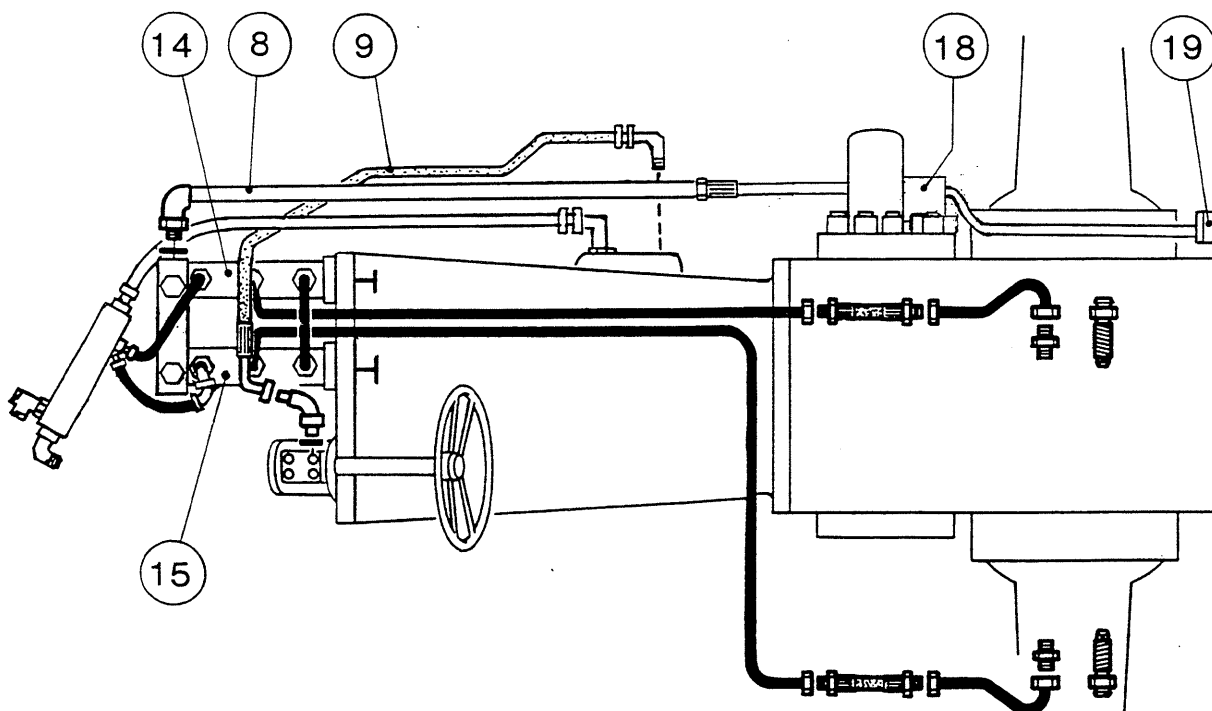

Fig. 4
- without braking servo-assistance, with trailer brake (Fig. 4).